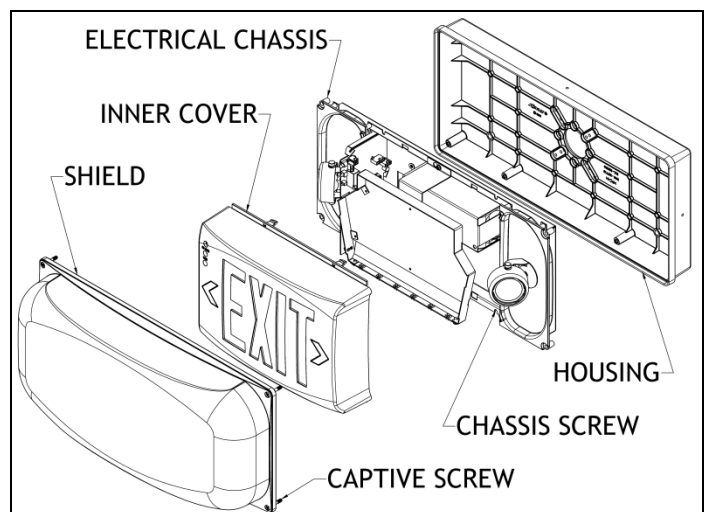

Figure 1
**Disassembly** (Figs. 1, 2): Remove SHIELD by loosening (4) CAPTIVE SCREWS at corners. Remove INNER COVER by disengaging snaps where shown. Loosen (2) screws retaining REFLECTOR ASSEMBLY. Shift and remove. Remove (4) CHASSIS SCREWS and set aside for reuse. Remove ELECTRICAL CHASSIS assembly.
**Wiring** (Figs. 1, 2, 5, 6): Reinstall ELECTRICAL CHASSIS assembly using the CHASSIS SCREWS, observing proper orientation (PC board at left), routing 12” supply wire pigtails through opening in GEAR TRAY. Connect supply ground to GROUND WIRE provided. Connect supply wires to appropriate TRANSFORMER leads. Lead color coding: White= Neutral, Black= 120V, Orange= 277V, Blue= 347V. Separately cap off all unused leads. Connect remote loads (if used) to appropriate terminal blocks. Refer to chart for maximum allowable loads.